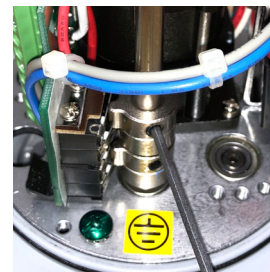

Fig 4 - CW AUX Cam adjustment
- a. Using the 2.5mm hex key on CAM #4 (Fig 4) loosen the cam setscrew and rotate the cam CCW by pulling the hex key to the RIGHT a few degrees. Lightly snug up on the setscrew until resistance is felt against the cam shaft. Pull the hex key to the LEFT SLOWLY until you hear a "click" from the associated (#4) cam switch and continue a few more degrees in the same direction. (This assures the AUX switch trips before the actuator reaches its end of travel). Snug up on the cam setscrew.